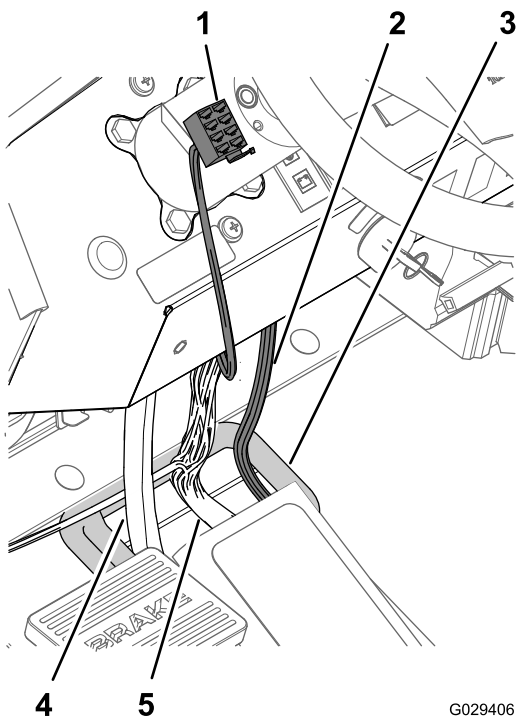

Figure 16
4. Route the 8-socket connector at the end of the 240 cm (94-1/2 inch)—dash-panel branch across the dash panel and to the left of the steering column (Figure 16).